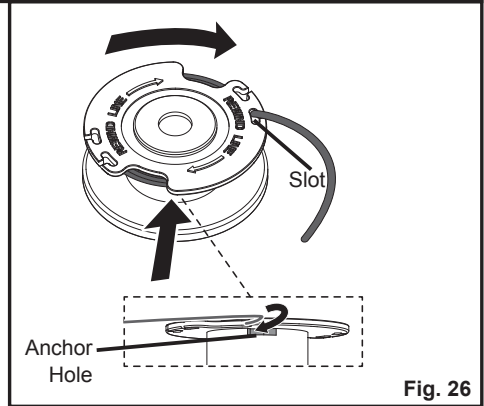

Fig. 26
4. Insert the line into one of the two anchor holes found on the upper part of the spool. Wind the line around the spool clockwise as shown by the arrows on the spool (Fig. 26).
5. Place the end of the line in one parking slot located on the top cover of the spool, leaving some of the line out (Fig. 26).